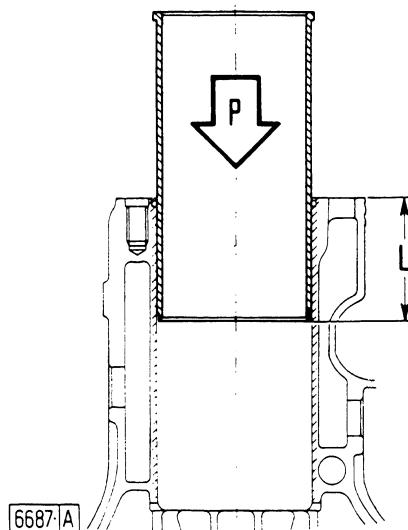

Fig. 4 - Installing sleeves in block.
- When the sleeve is 100 mm or 4 inches in (see **L**, fig. 4) the load (**P**) required to press the sleeves fully home should be between 340 to 3400 daN or 764 to 7643 lb;